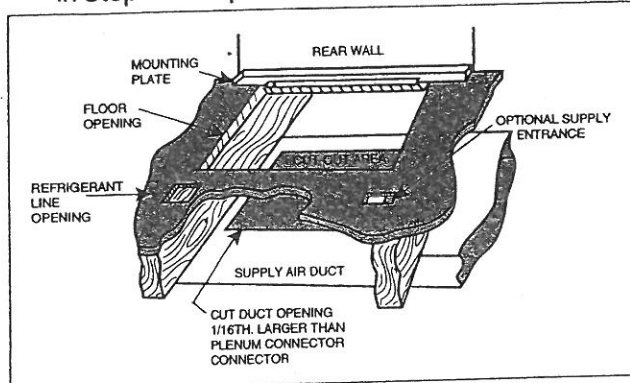

Figure 5. Rear Mounting Plate
3. If using the optional rear mounting plate (supplied with the plenum connector), install it to the back edge of the floor opening now (see Figure 5). Reinstall the plenum connector into the floor opening.